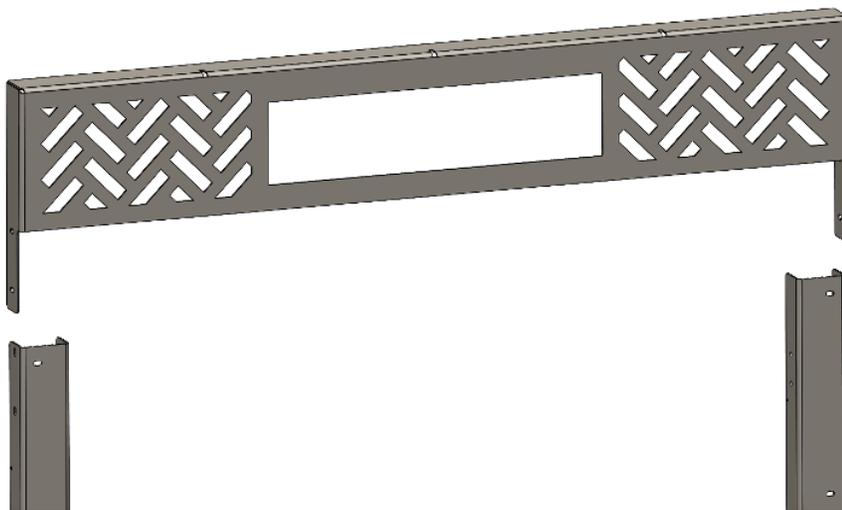

Figure 5
7. Attach 23026 top section (Figure 5) Use four (4) ¼" Stainless Steel Cap head bolts, eight (8) stainless flat washers, and four (4) stainless nuts per piece. (Figure 5)